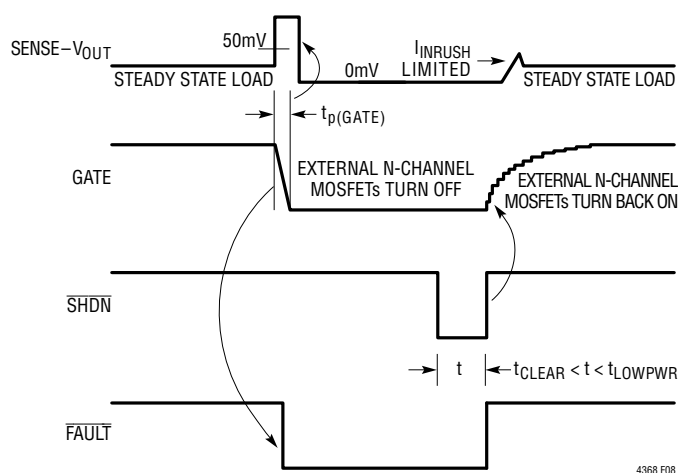

Figure 9. Forward Overcurrent Fault with REPLY Pin Grounded
- Latch off the MOSFETs by grounding the REPLY pin (no external REPLY capacitor needed). This latches the forward overcurrent fault. The external MOSFETs are kept in the off condition until the $\overline{\text{SHDN}}$ input pin is toggled low then high (t_{CLEAR} pulse width $< t_{\text{LOWPWR}}$). See Figure 9 timing diagram.